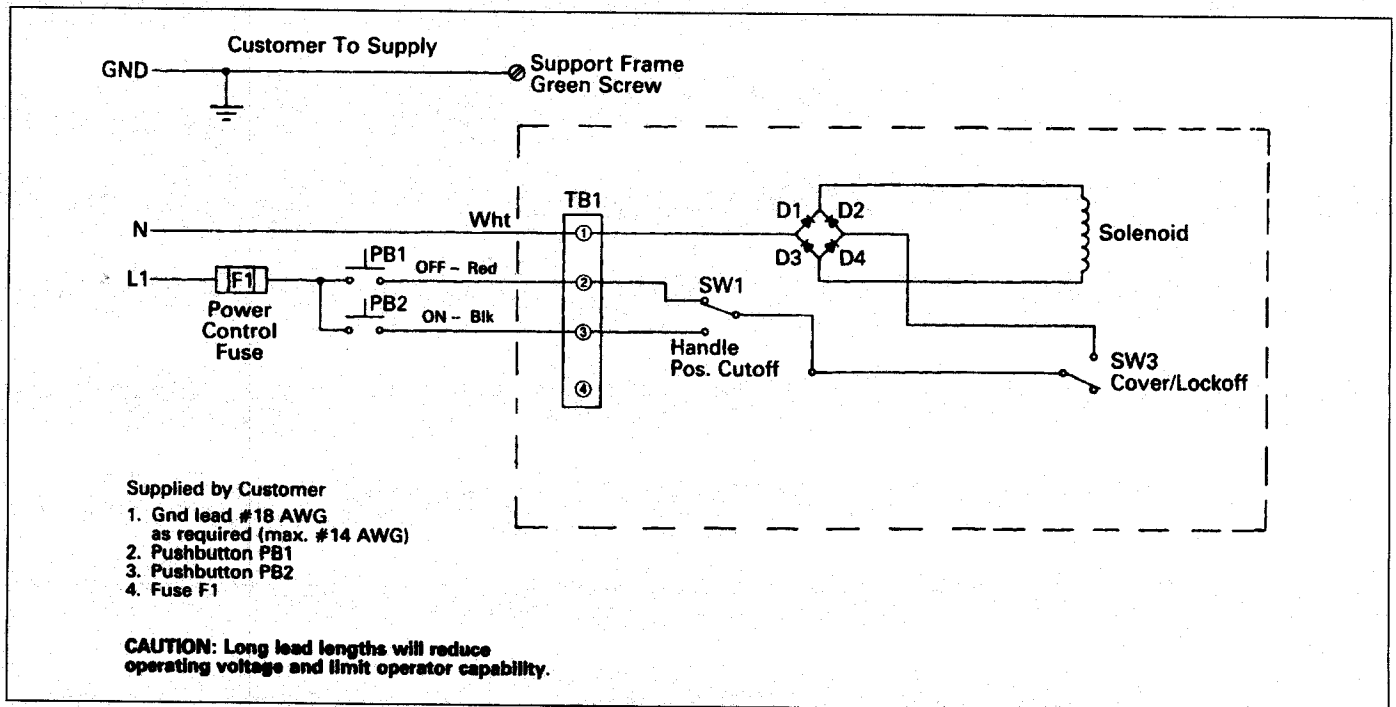

Fig. 2-6. Electrical Operator Wire Connection Diagram
**Note:** When the electrical operator is supplied with a terminal block and the assembly is mounted on an insulated surface, connect a ground conductor (green) as shown in Fig. 2-6 to ground the electrical operator frame. The ground connection is not required where the electrical operator is mounted to a grounded metal surface by means of the mounting screws.
- 2-12. After the electrical operator supplied with a terminal block is mounted, remove the cover and connect the control wires to the terminal block. (See Fig. 2-6.)
- 2-14. Connect control wires to remote control devices. Short lead lengths will supply adequate coil voltage. (See Fig. 2-6.)